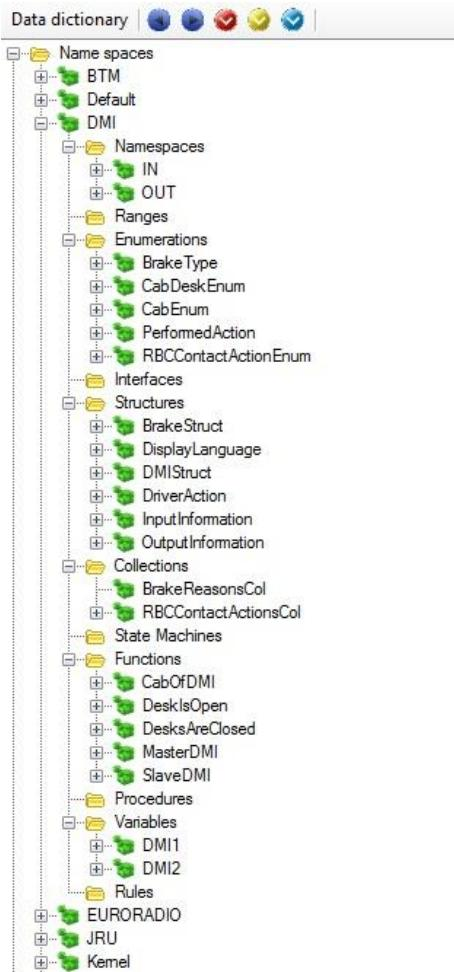

Figure 44: Hierarchical tree of the model elements.
- The left side contains the **hierarchical tree view** which allows selecting an element in the model. To see the hierarchical tree in detail see Figure 44.